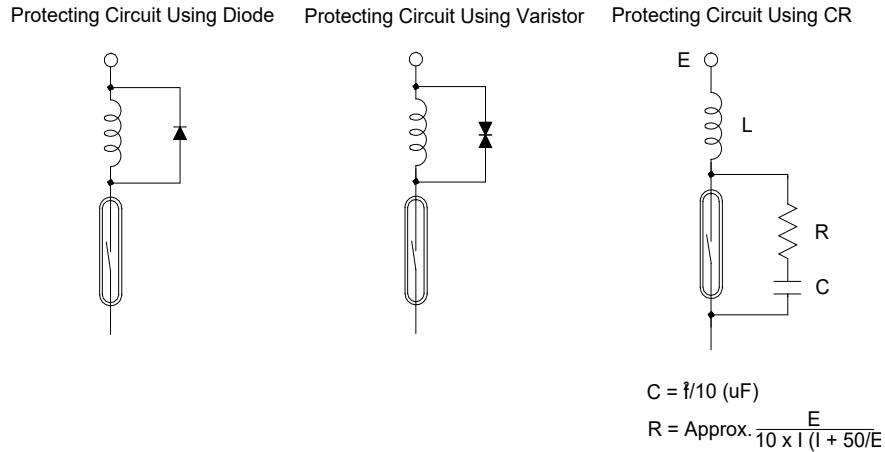

Figure 2.2
- For inductive loads or high voltage/high current resistive loads, provide circuit protection for switch(es) (See Figure 2.2). See Specifications on page 2 for switch ratings.